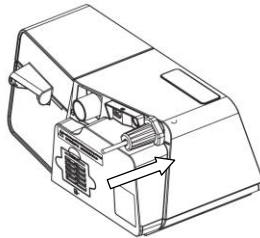

Fig. 12-6
(3) Insert the power cord locker into the buckle of DC inlet, as shown in Fig. 12-6.